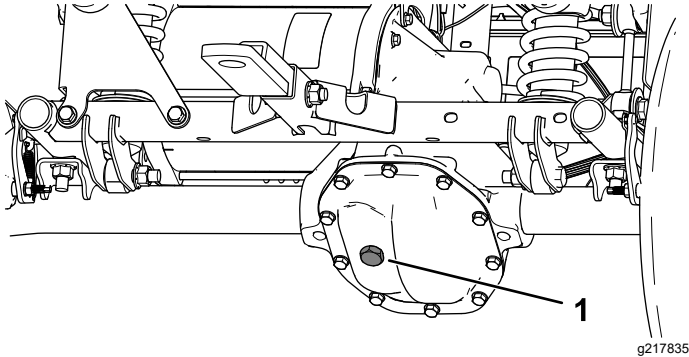

Figure 48
4. Remove the fill plug on the transaxle (Figure 48).
5. If the fluid level is low, remove the fill plug and add the specified fluid until it runs out of the hole (Figure 48).
4. Remove the fill plug on the transaxle and fill the transaxle with the specified fluid until it runs out of the fill hole (Figure 48).